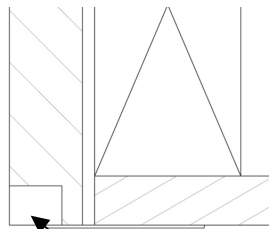

Fig 6.1
6. There is a ball-catch on the Lenox frame, which secures the door. For the catch to operate properly, a notch must be ground into the edge of the marble box prior to frame installation. (See Fig 6.1) In order to mark the correct location for the notch, temporarily insert the Lenox Frame into the opening and mark the ball catch mechanism location. Clearance for the final shimming of the frame should be considered when positioning the notch. After marking the position, remove the Lenox frame.